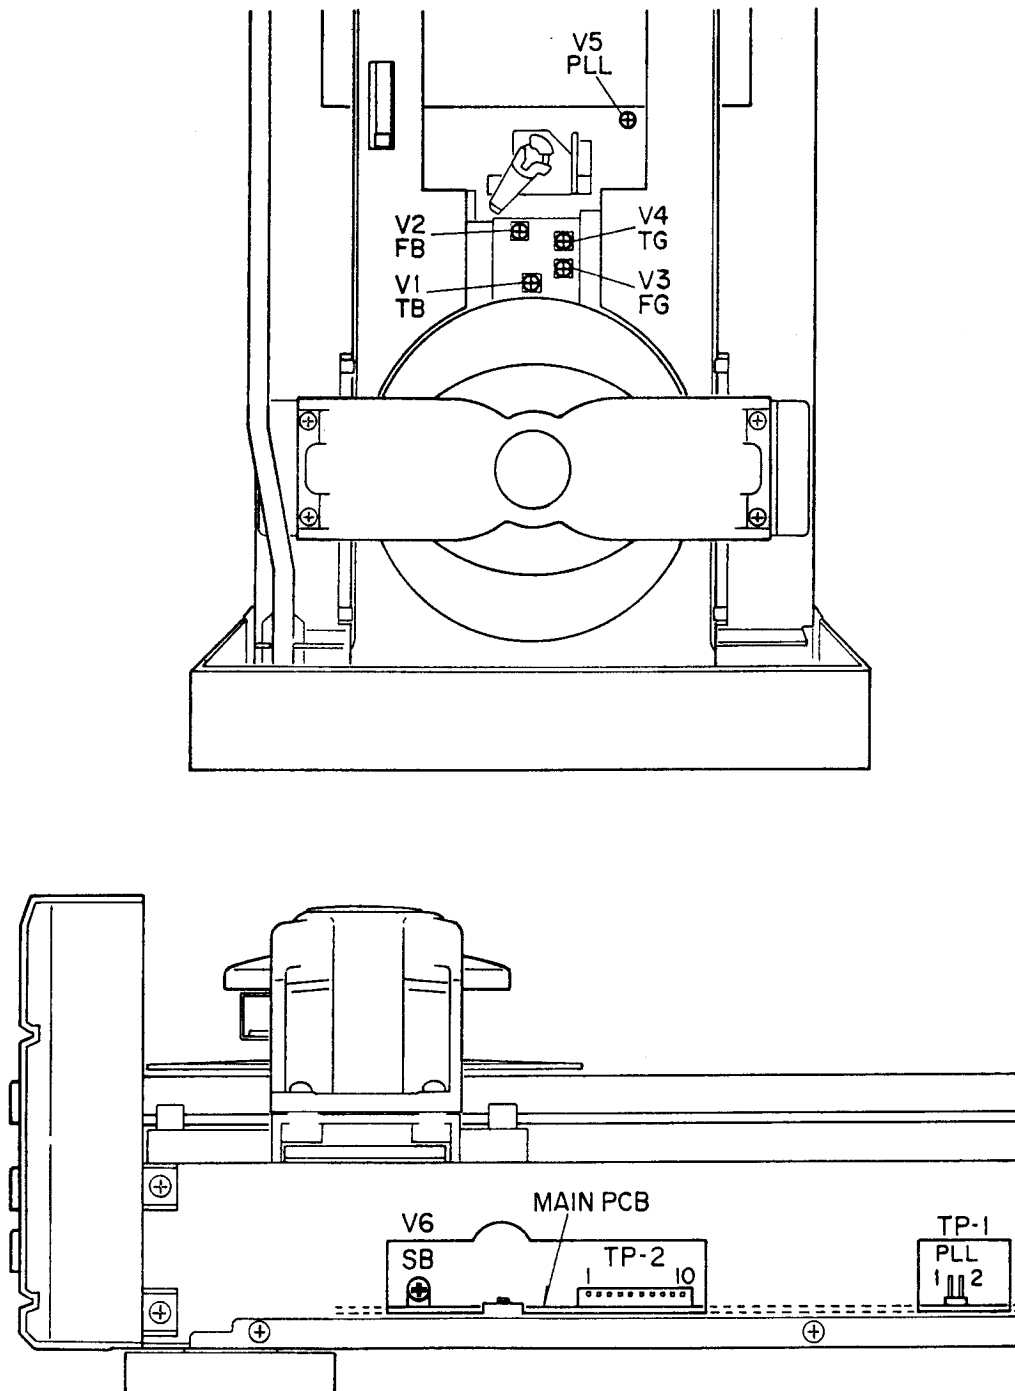

Fig. 4-6
*ADJUSTMENT POINTS : MAIN PCB Assy (Fig.4-6)
*調整箇所 : MAIN PCB Assy (Fig.4-6)